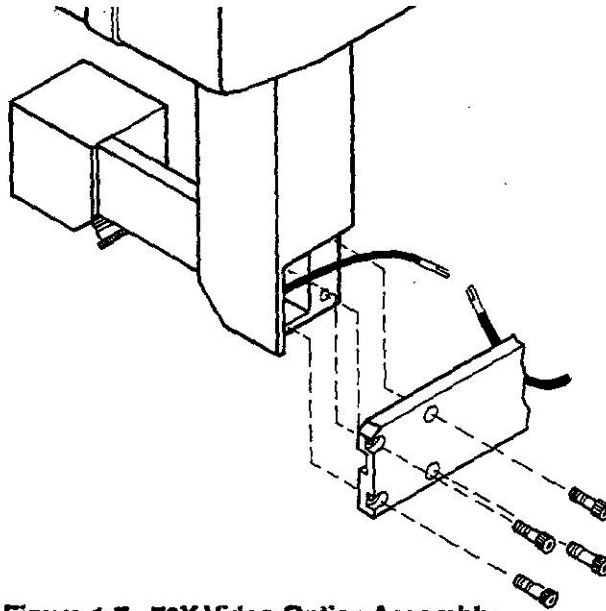

Figure 1-7. 70X Video Optics Assembly
3. Lay optics assembly on top of the Scan Head and connect the lamp cable. (See Figure 1-7)